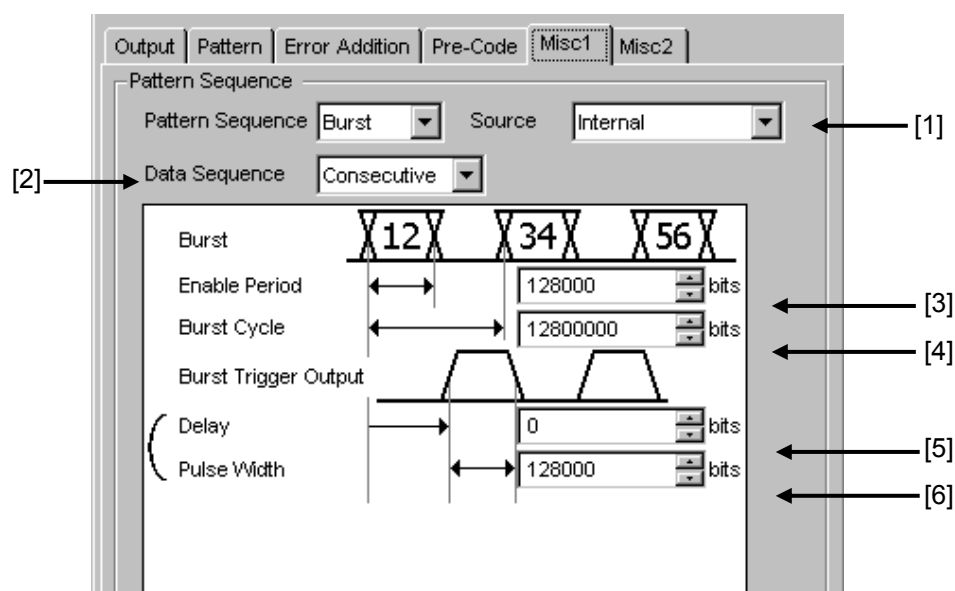

Figure 5.5.1.2-1 Setting items for Burst pattern sequence
- [3] When External-Trigger or Internal is selected from the Source drop-down list ([1] in Figure 5.5.1.2-1), set the continuous signal generation period for the Burst cycle of the test pattern to be input to the AUX Input connector, by entering the number of bits in the **Enabled Period** box.